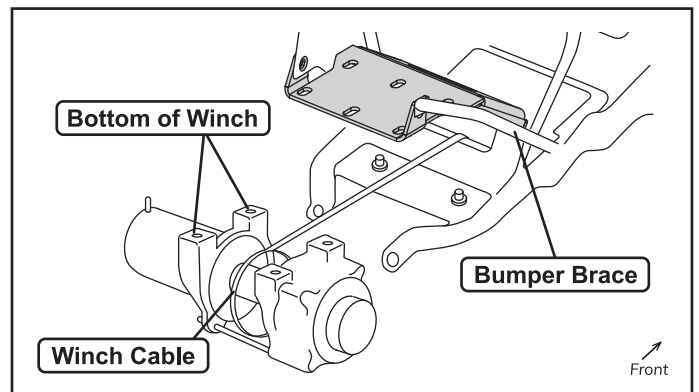

Figure 6.
5. Install your winch using the hardware included with your winch. Before tightening the hardware make sure to slide the winch as far forward as possible. The winch rope needs to come off the winch as shown in figure 6.